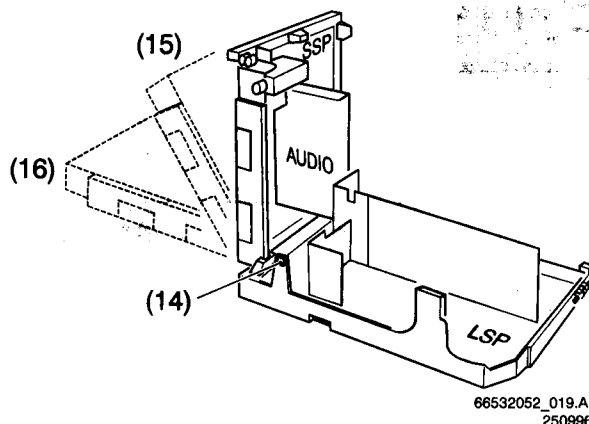

Figure 4.7
SSP copper and component side, module servicing (Figure 4.7)
2. Release the click construction (14 - Fig. 4.7) between the SSP and LSP, lift the SSP a little and turn it to an angle of 180° (16 - see Fig. 4.7) from the LSP.